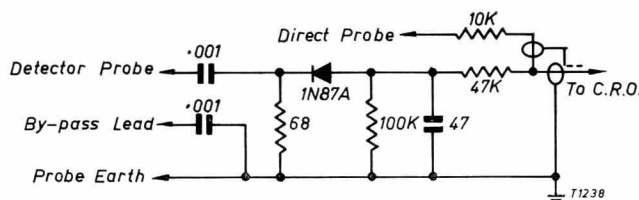

FIG. 5
6. Crystal Detector Probe (Fig. 5).
Connect the crystal detector probe (Fig. 5) to the i.f. 1 test point (1st video i.f. collector) and by-pass i.f. 2 test point (2nd video i.f. collector) using the by-pass lead provided. Connect the probe earth to VT301 collector (junction of VT301 and RV301).
Set the a.g.c. control, RV302, to give a 3.5 volts p-p on the c.r.o. connected via direct probe (Fig. 5) to video detector test point.